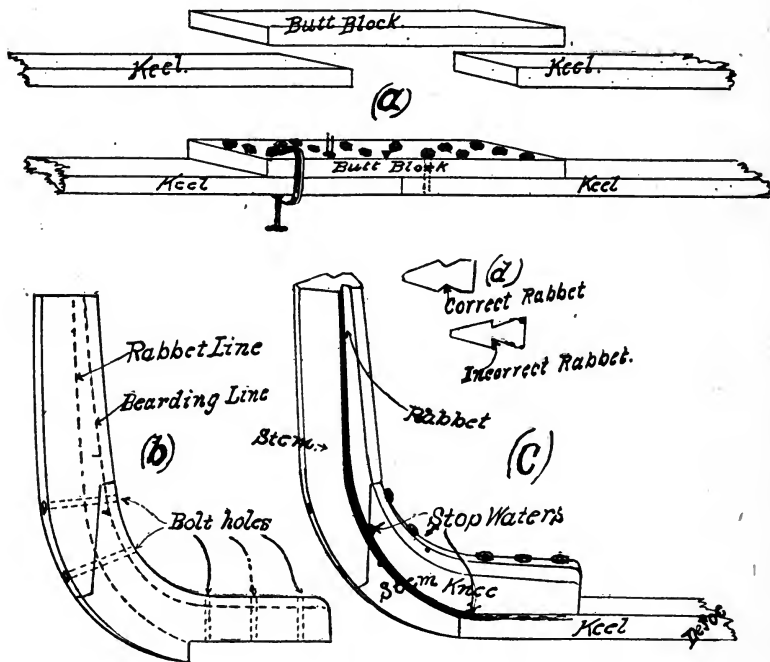

FIG. 2.
**Keel**—The first part to construct is the keel. Using patterns as directed, cut the keel to shape, and if made of two pieces (as in the larger boats), fasten together with a butt splice (Fig. 2 a). The keel is now finished.
**Stem**—First saw out stem and stem-knee from the patterns, and bolt them together as shown in Fig. 2 (b). Mark the rabbet line on both sides, and with a chisel cut the groove, called the rabbet, as shown in Fig. 2 (c). The ends of the plank are to be fitted into the rabbet, and hence it should be as deep as the plank is thick.